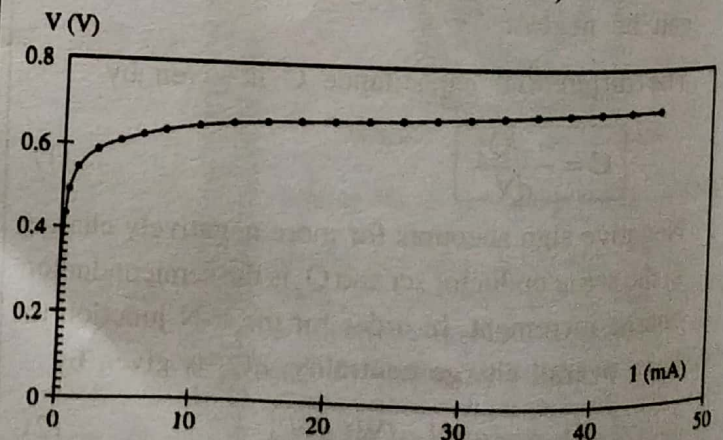

FIG. 4.6 : DESCRIPTION OF THE EXPERIMENTAL (I, V) CHARACTERISTIC (DOTTED LINE) WITH THE ONE EXPONENTIAL MODEL
- This procedure leads to obtain, with equation (2) a fairly exact fit to the experimental (I, V) characteristics.
- Fig. 4.6 illustrates this result and shows junction (I, V) characteristics (dotted line)